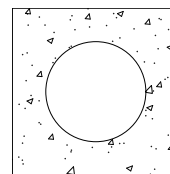
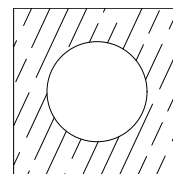
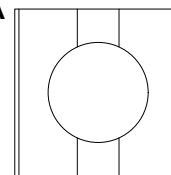

Fig. 1A
Fig. 1B
Fig. 1C
1. Cut or core a 6" hole in the floor. (I.E. Concrete Fig. 1A, wood floor Fig. 1B or corrugated steel deck Fig. 1C)